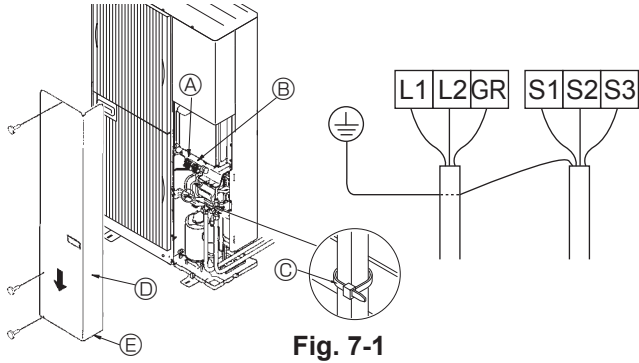
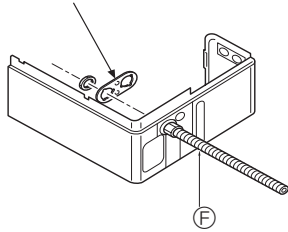

Fig. 7-1
Fig. 7-2
### 7.1. Outdoor unit (Fig. 7-1) (Fig. 7-2)
- ① Remove the service panel.
- ② Wire the cables referring to the Fig. 7-1.
- ③ Conduit mounting plates ( $\phi 22$  mm [ $7/8$ "]) are being provided. Pass the power supply and signal wires through the appropriate knock-out holes, then remove the knock-out piece from the bottom of the terminal box and connect the wires. (Fig. 7-2)
- ④ Fix power source wiring to terminal box by using buffer bushing for tensile force (PG connection or the like).